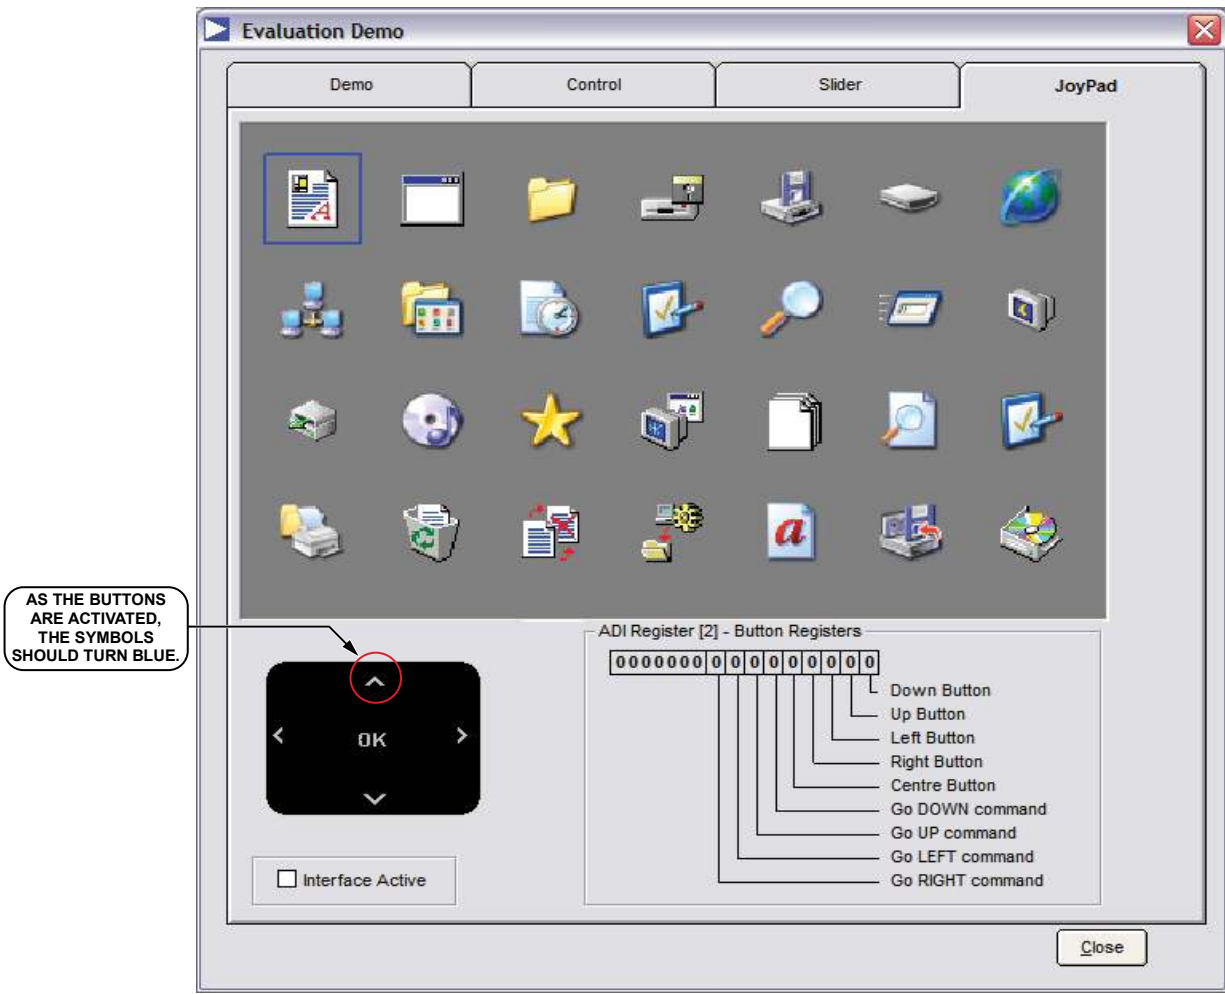

Figure 6. JoyPad Dialog Box
The **JoyPad** tab opens the dialog box shown in Figure 6. When you activate the joypad, the directional arrows on the graphic turn blue to show the direction of movement. Movement of the blue box is controlled by the joypad; you can move the blue box to different icons around the screen using the joypad or select the center **OK** button.
**ADI Register [2]** is shown in the lower right of Figure 6. This register shows the results of the software decoding on the buttons sensor outputs.